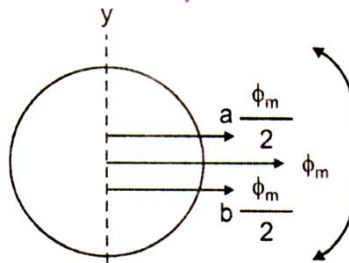

Figure 1
- \* Fig.1 shows the vectors when they have been rotated by an angle  $+\theta$  and  $+\theta$